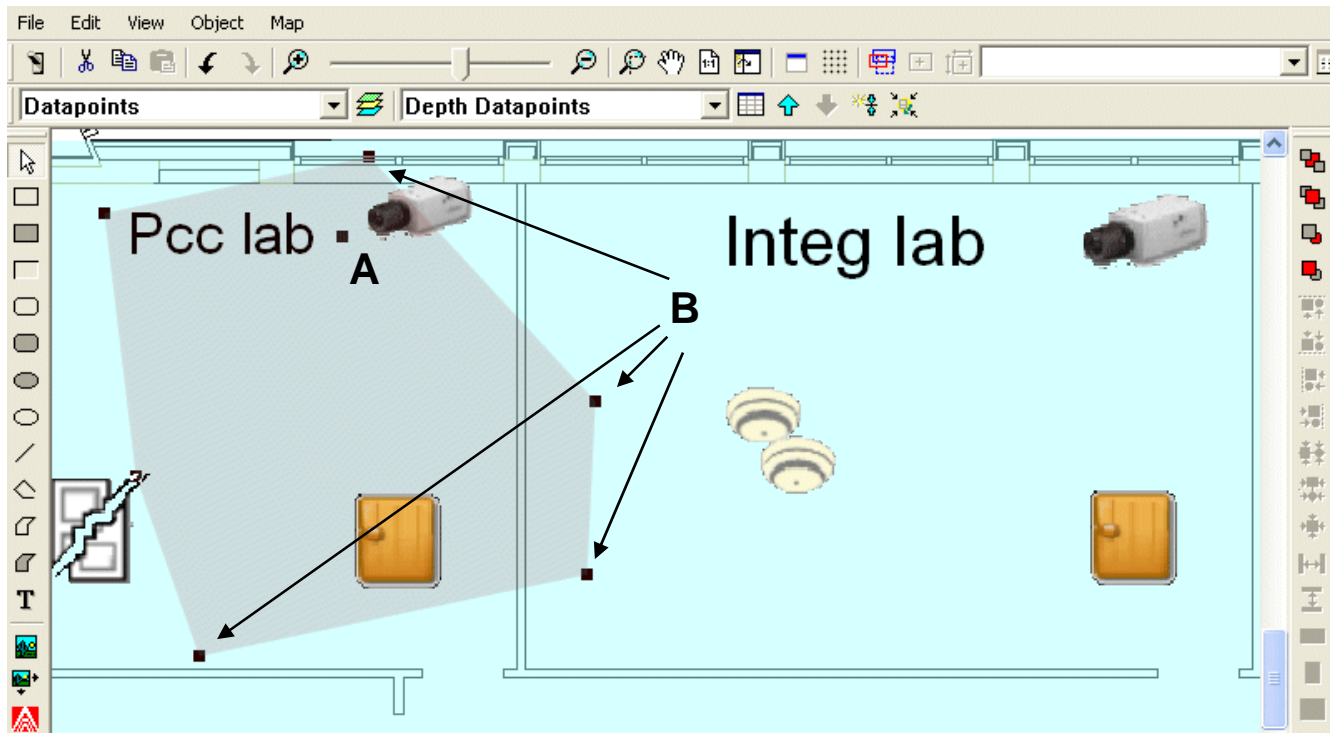

Fig. 13 Area controls
*A polygon appears indicating the camera coverage area. (See Fig. 13.)*
3. Use the interior squared dot of the polygon to move and orient the coverage area. (See "A" in Fig. 13.)
4. Use the peripheral squared dots to shape the polygon to represent the actual camera view. (See "B" in Fig. 13.)